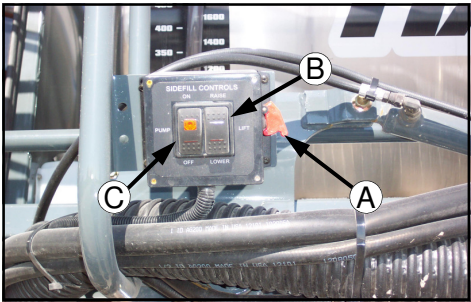

FIG 4.34-1
INDUCTOR OPERATION- With the engine running and the parking brake set, flip the lock switch up (fig.4.34-1, item A). Lower the inductor assembly with the inductor control box switch (fig. 4.34-1, item B). If filling with the suck-on attachment, leave the engine running. If filling with the push-on attachment, turn the engine off.
*To activate "suck-on" pump, flip the inductor control switch up (fig. 4.34-1, item C). This will start the pump. Flip switch down when filling is complete.